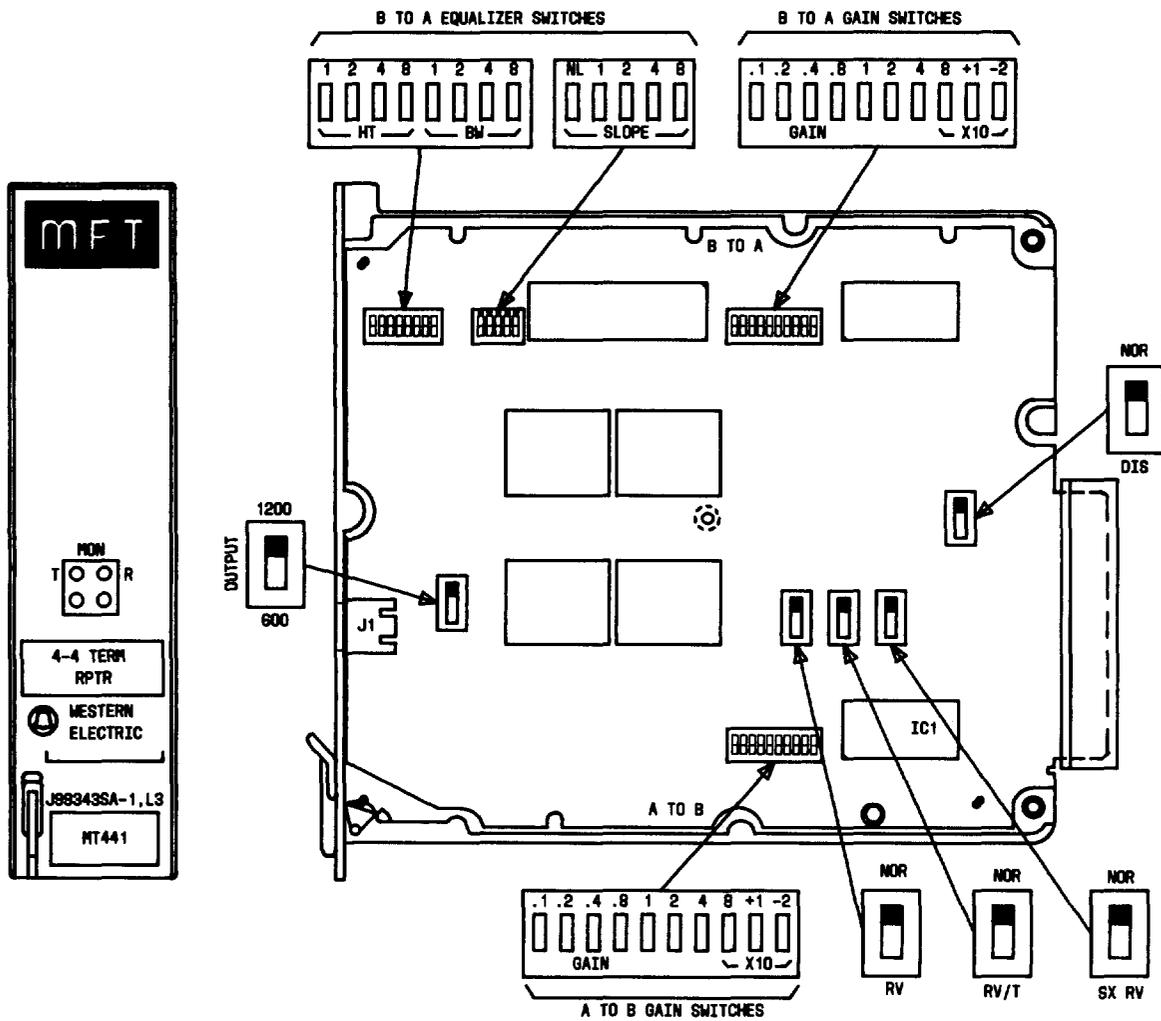

Fig. 4—J99343SA, List 3 Repeater Component Layout
3.01 The J99343SA, List 3 is shown in Fig. 4. It provides gain between loaded or nonloaded 4-wire facilities and 600-ohm terminal equipment. Equal-
3.06 The rocker-type switches for a particular function, which are described in the following paragraphs, are operated when depressed toward the respective designation. The sum of the values of the switches operated is the setting for that function. The unit controls are illustrated in Fig. 4.